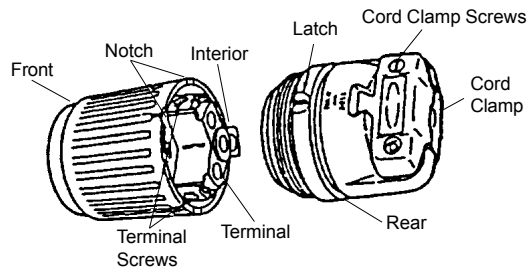

Fig. 1
- Loosen cord clamp screws and slide rear housing onto cable. See Fig. 1.